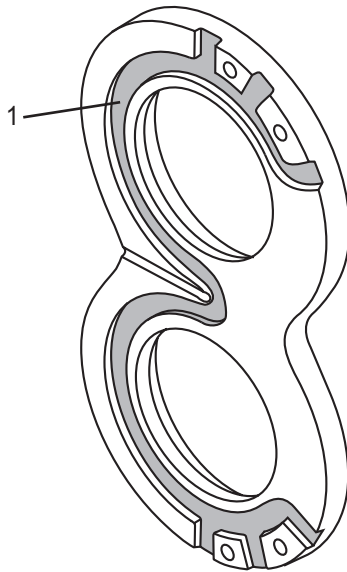

Figure 28
- Make sure the channel seal is properly seated in the seal groove with the flat side of the seal facing away from the thrust plate. The channel seal groove (Figure 28, Item 1) in the plate must face the outlet side of the pump.